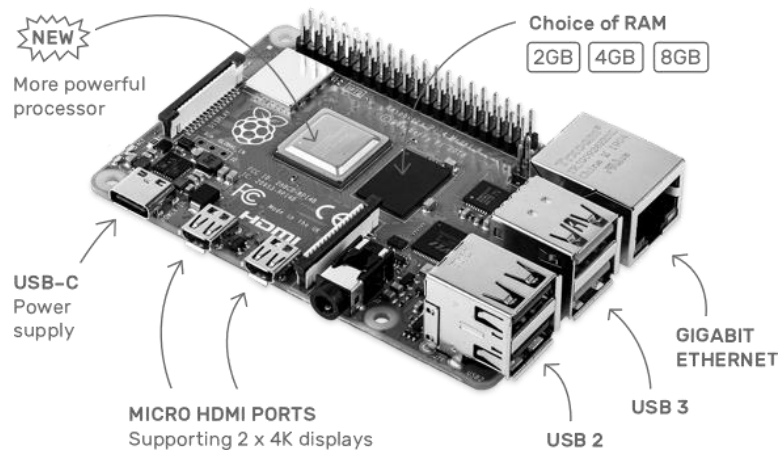

Fig. 3. Raspberry Pi 4B
Processor speed is 1.5 GHz for the Pi 4; on-board memory up to 8 GB available on the Pi 4. Secure Digital (SD) cards in MicroSDHC form factor (SDHC on early models) are used to store the operating system and program memory. The boards have four USB ports. For video output, HDMI and composite video are supported, with a standard 3.5 mm tip-ring-sleeve jack for audio output. Lower-level output is provided by a number of GPIO pins, which support common protocols like I2C. The B-models have an 8P8C Ethernet port and the Pi 4 has on-board Wi-Fi 802.11n and Bluetooth (Figure 3).